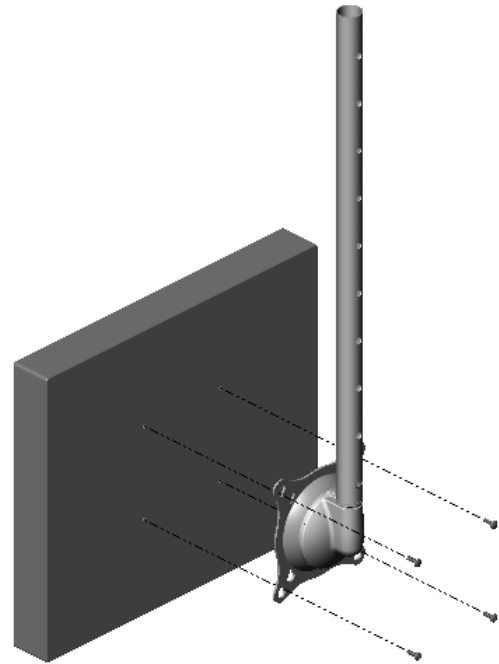

Figure 3. Install Flush Mount Display on Bracket
2. Matching the hole pattern on your display with the hole pattern on the mount, hang the mount from the two screws started in Step A (see Figure 3).